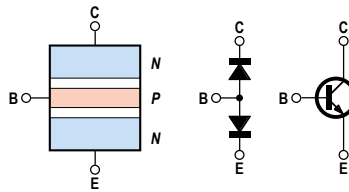
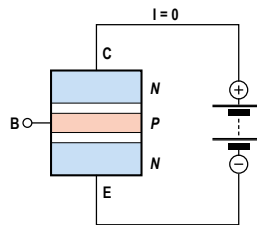

Figure 9. NPN transistor.
Figure 10. No current flows in transistor.
First let's consider the NPN transistor, whose structure and equivalent circuit diagram are shown in **Figure 9**. The individual regions of the transistor are called the emitter (E), the base (B) and the collector (C). For proper operation the base region must be very thin. First consider the situation with the transistor connected to a voltage source, with the emitter connected to the negative terminal and the base lead unconnected (**Figure 10**). No current flows in this situation because the base–collector junction is reverse biased.